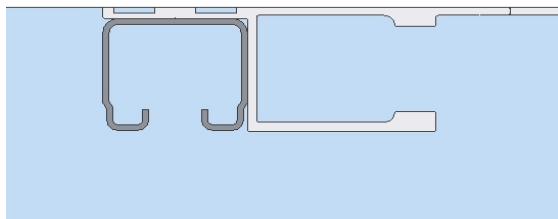

Figure 4.1a. Positioning Track
Locate the (2) Load Sections of track. Position (1) of the track load sections so that the edge is butted tightly against the striker wall and **the inside edge is tightly butted up against the chain guide** as shown in **Figure 4.1a**. Use the label on the section to determine orientation. Check to see that the holes in the track and chain guide are aligned. Make sure that the joints of the track and chain guide are staggered by approximately 6”, as shown in **Figure 4.1b**. Use the 4” x #10 screws provided to mount the track to the header. Repeat for remaining Load Section.